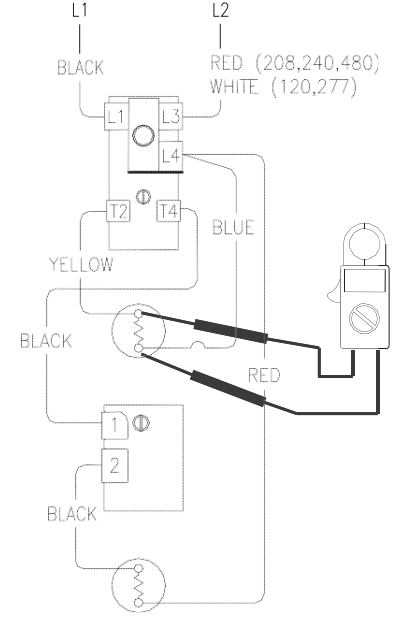

Figure 9
5. Check across element terminals (see Figure 9).